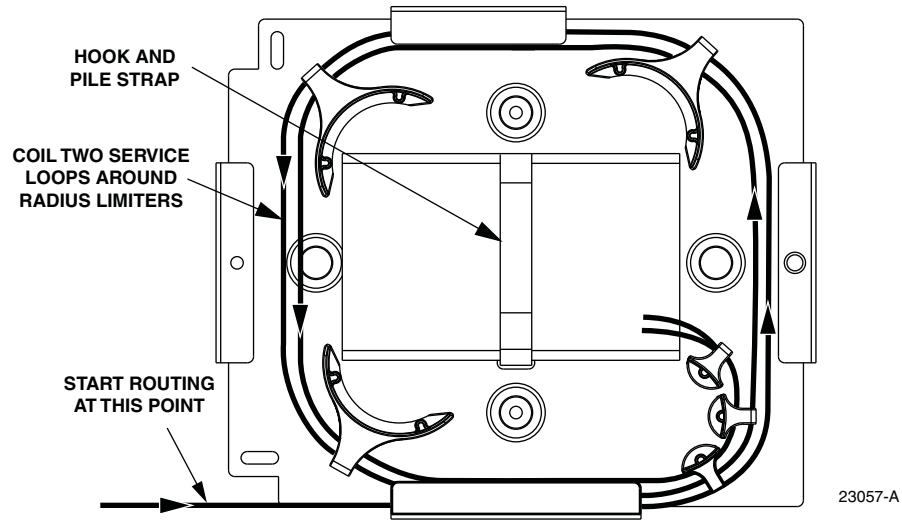

Figure 38. Feeder Splice Tray Replacement - Ribbon Fiber Splicing
15. To replace the splice tray, route the attached tubes around the splice tray holder radius limiters (there should be 2 service loops) as shown in Figure 38. Avoid twisting or kinking the fiber tubes.